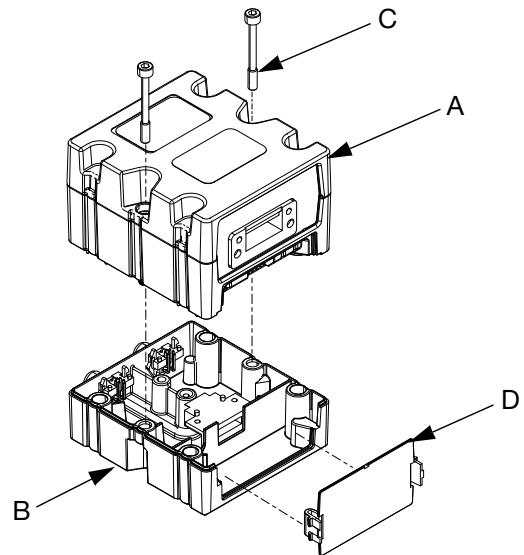

FIG. 31
1. Remove the access cover (D). Loosen the two screws (C) and remove the CGM from the base (B). See FIG. 31 .